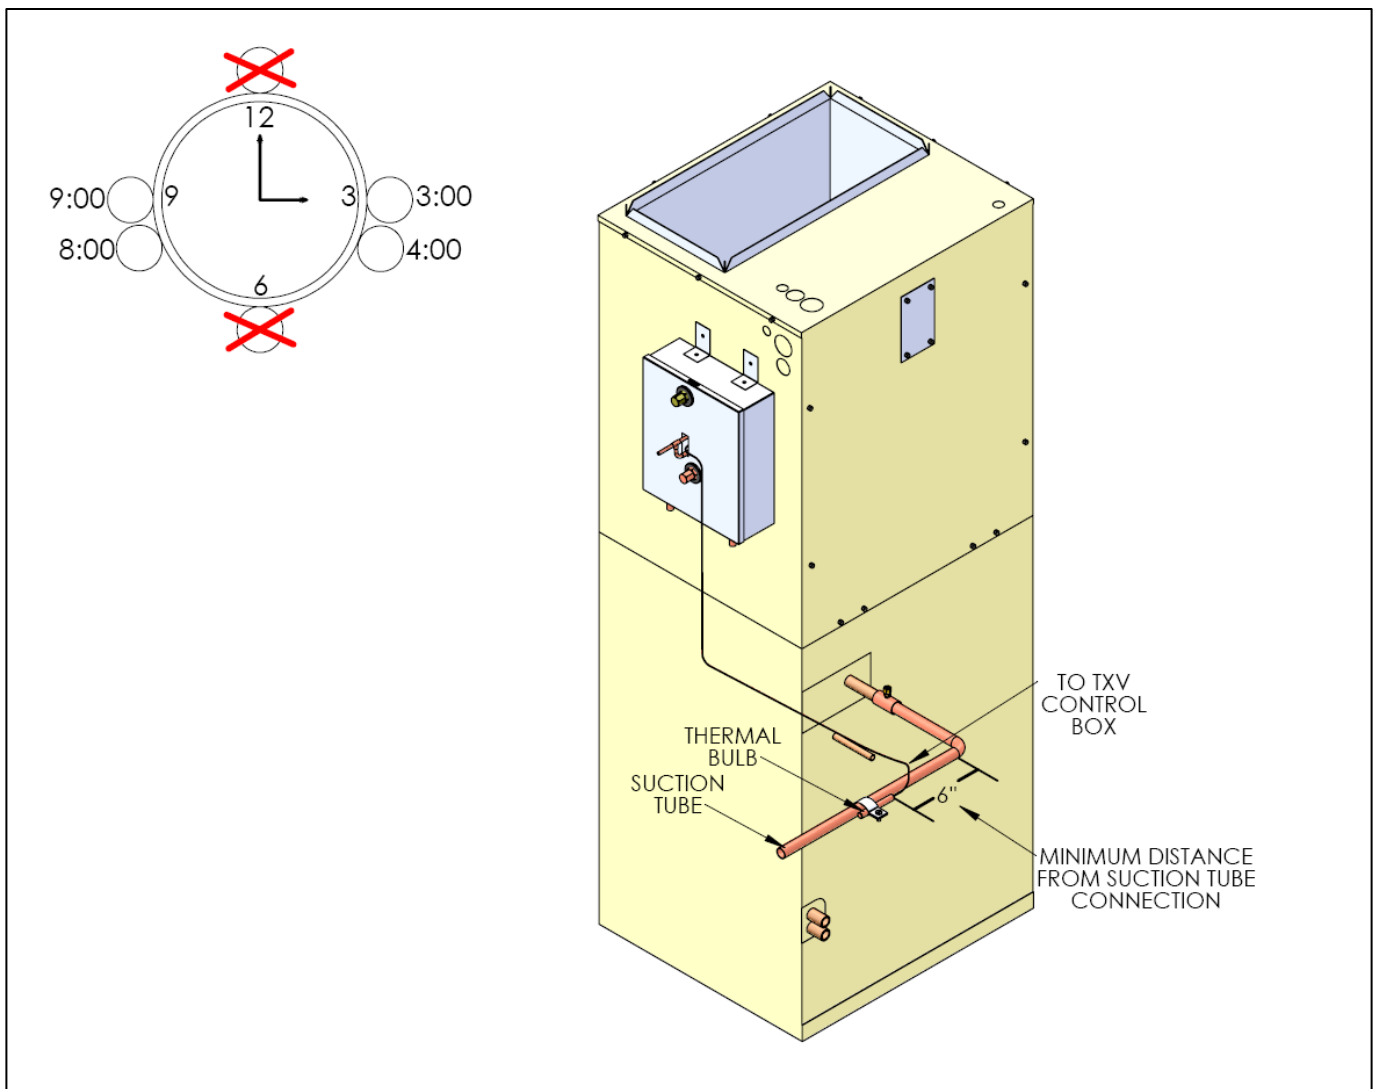

Figure 10. Thermal Bulb Positioning
Step 3: The **Thermal Bulb** must be positioned and clamped to the **HORIZONTAL** extension of the air handler suction tube as shown in the example illustrated in Figure 10. The **Thermal Bulb and suction tube extension must be horizontal** regardless of the air handler application (vertical or horizontal).
The Thermal Bulb must be positioned at least 6 inches downstream of any fitting in the suction tube extension and at the 3:00, 4:00, 8:00 or 9:00 positions on the suction tube extension, as illustrated in Figure 10.